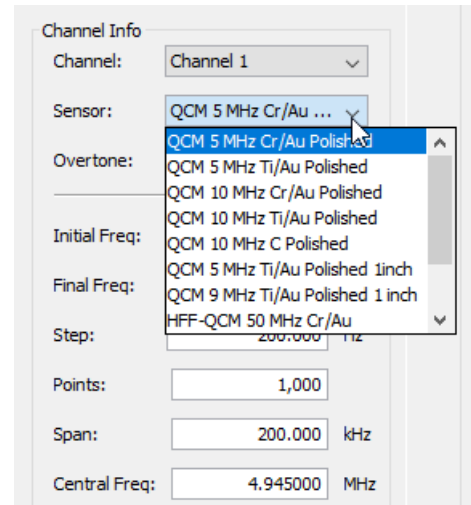

Figure 2: Example of sensor configuration options in drop-down menu in the Sweep Tool.
4. Pick the sensor configuration (Figure 2) that best matches your custom sensor in terms of nominal fundamental frequency and format (14 mm vs. 1 inch, for example).
- Introduce a description for the sensor. This **Description** will be used to identify the sensor in the drop-down menus for sensor configuration, such as the one shown in Figure 2.